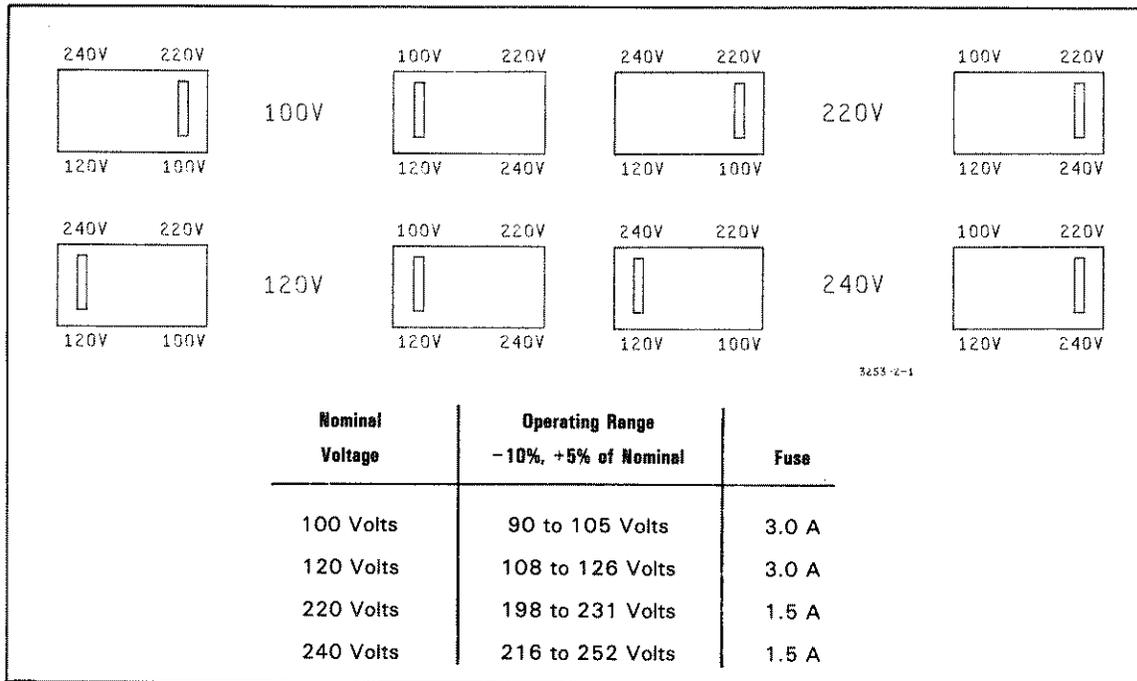
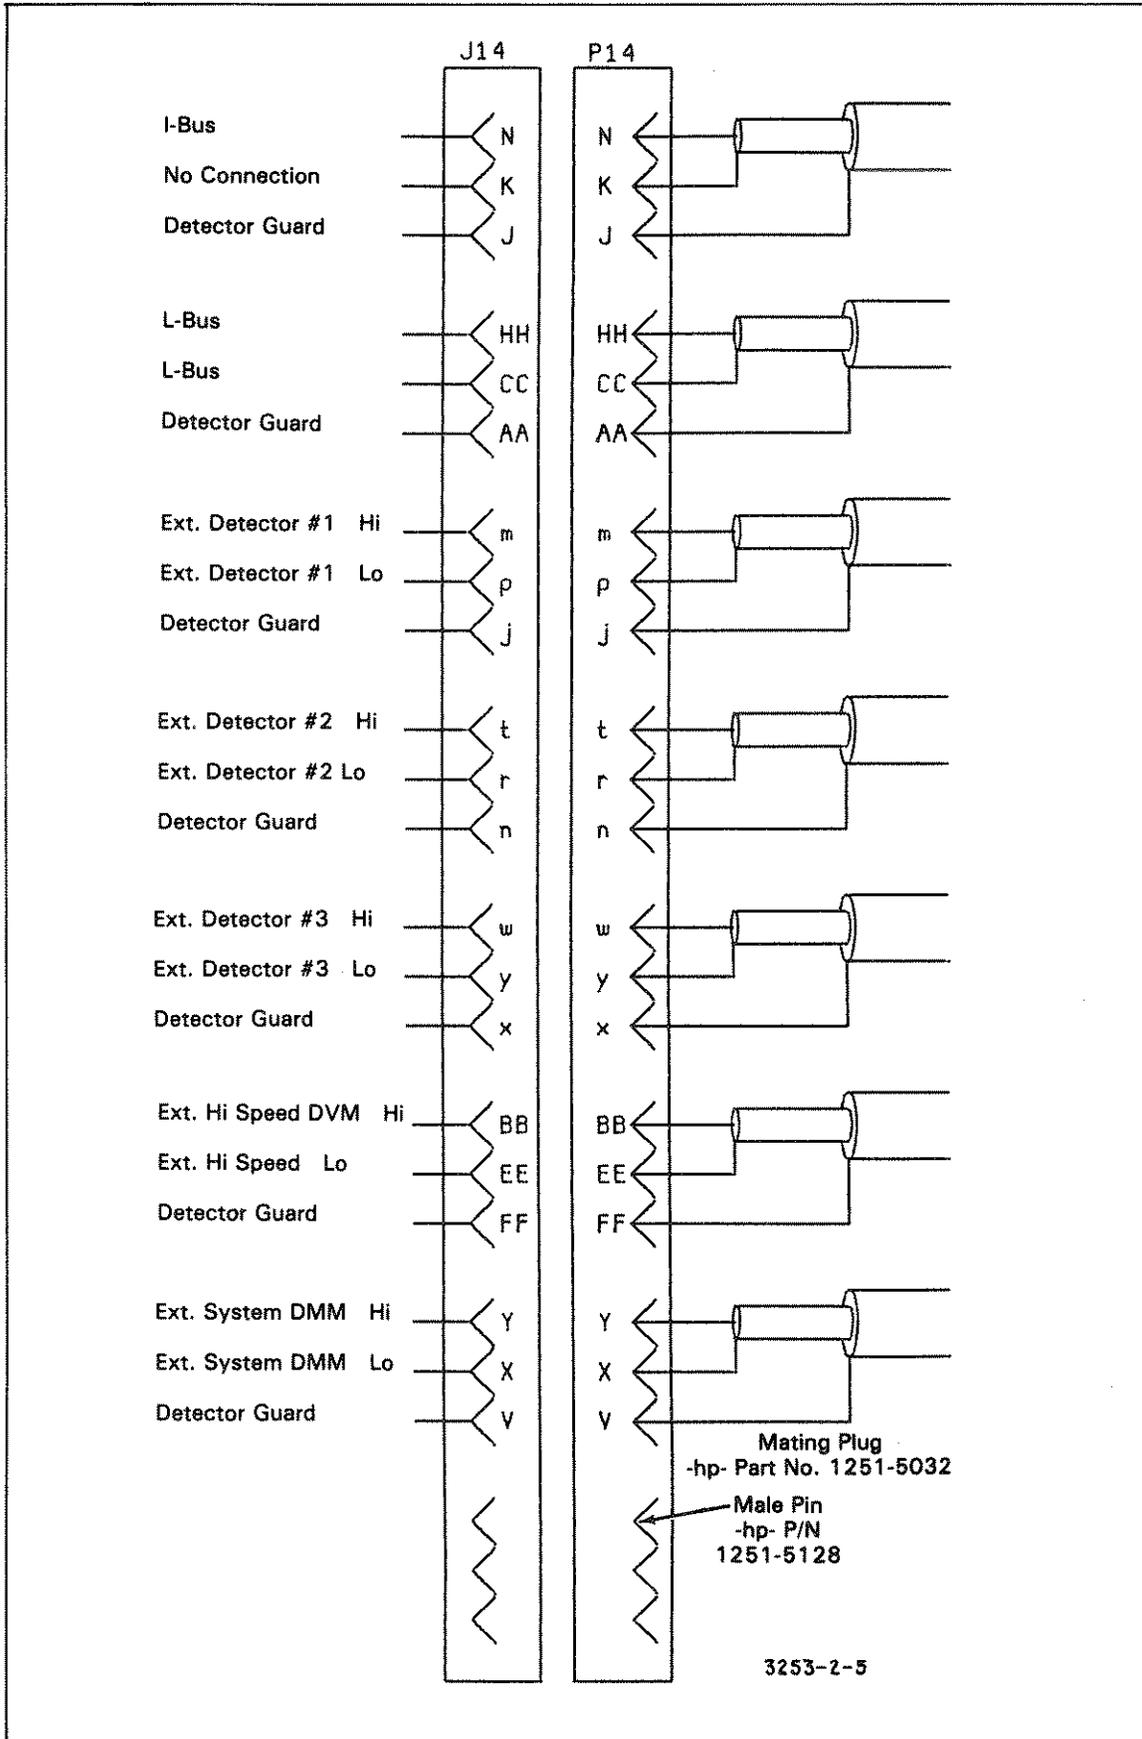

Figure 2-1. Line Voltage Selection.
Figure 2-5. J14 Wiring Diagram.
2-9. Figure 2-1 provides instruction for line voltage and fuse selection. The 3253A line voltage is factory set for 120 V ac operation.
- ⚠ ② J14 Response Connector (in 3060A System connects to P14). Refer to Figure 2-5 for connector wiring.
- ③ HP-IB Connector.
- ④ Sync output, BNC connection for TTL level trigger out.
- ⑤ Line voltage selector switch, refer to Figure 2-1 for instructions.
- ⑥ Three prong line voltage connector.
- ⑦ Chassis ground connection point, used in 3060A System.